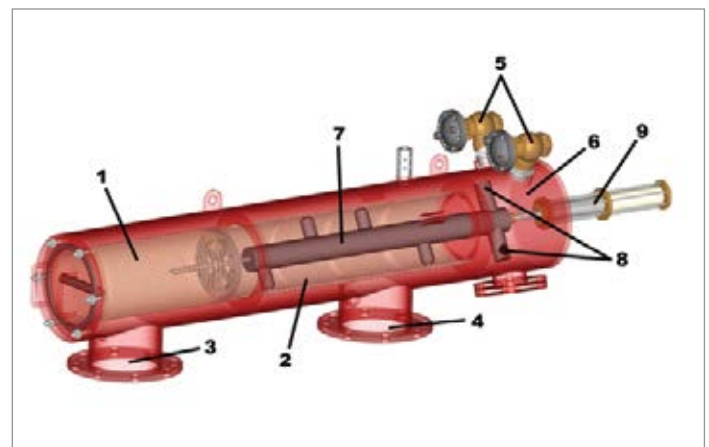

Figure 2: Filter Components
The filtration unit consists of two stages of filtration. The components of a typical filter of this type are depicted in Figure 2. The first is a coarse cylindrical pre-filter (1) that removes rigid particles too large to pass through the nozzles of the dirt collector during the cleaning cycle. The second stage is a cylindrical stainless steel weave-wire fine screen element (2) that is the real workhorse of the filter. The openings of this element are of a specific size, representing the filtration degree of the element (200 microns in this application).